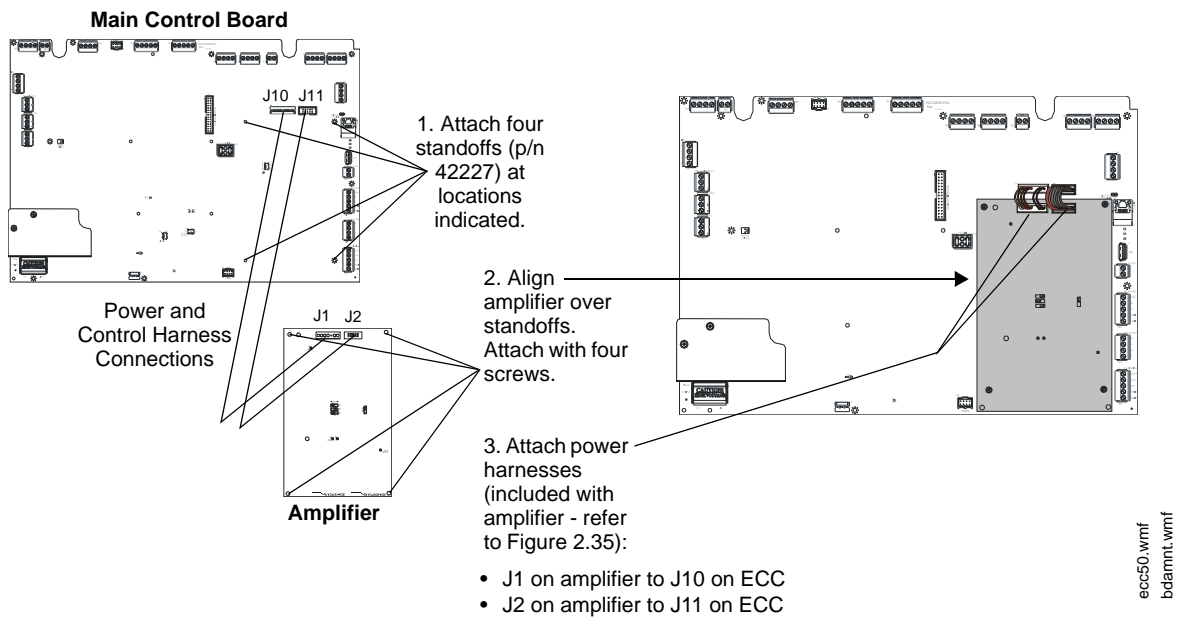

Figure 2.34 ECC-50W-25/70V Installation
Figure 2.34 shows the installation of a ECC-50W-25/70V onto an ECC-50/100 panel. The optional amplifier may be programmed and wired for backup or for providing a second audio channel.
1. Remove mounting screws shown, from the main control board, and save (refer to Figure 2.34).